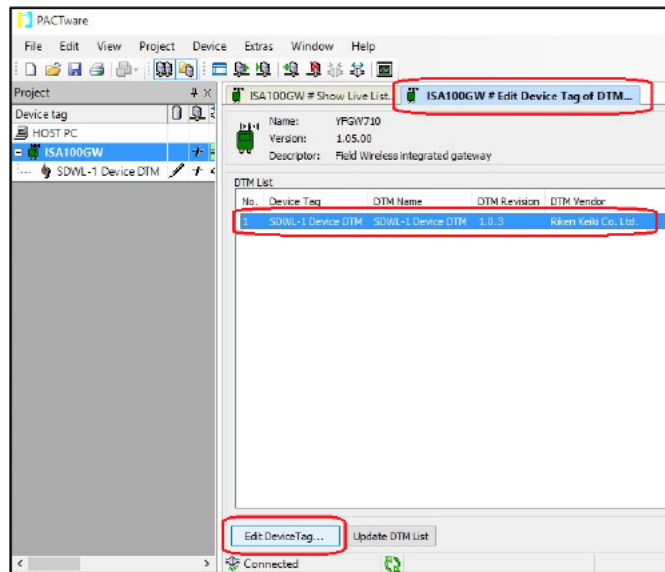

Figure 5-31 DTM list (selecting DTM for editing device tag)
- ⑩ Select the corresponding SDWL-1 from the DTM list in the “ISA100GW # Edit Device Tag of DTM...” tab, then select “Edit Device Tag...”. (Figure 5-31)